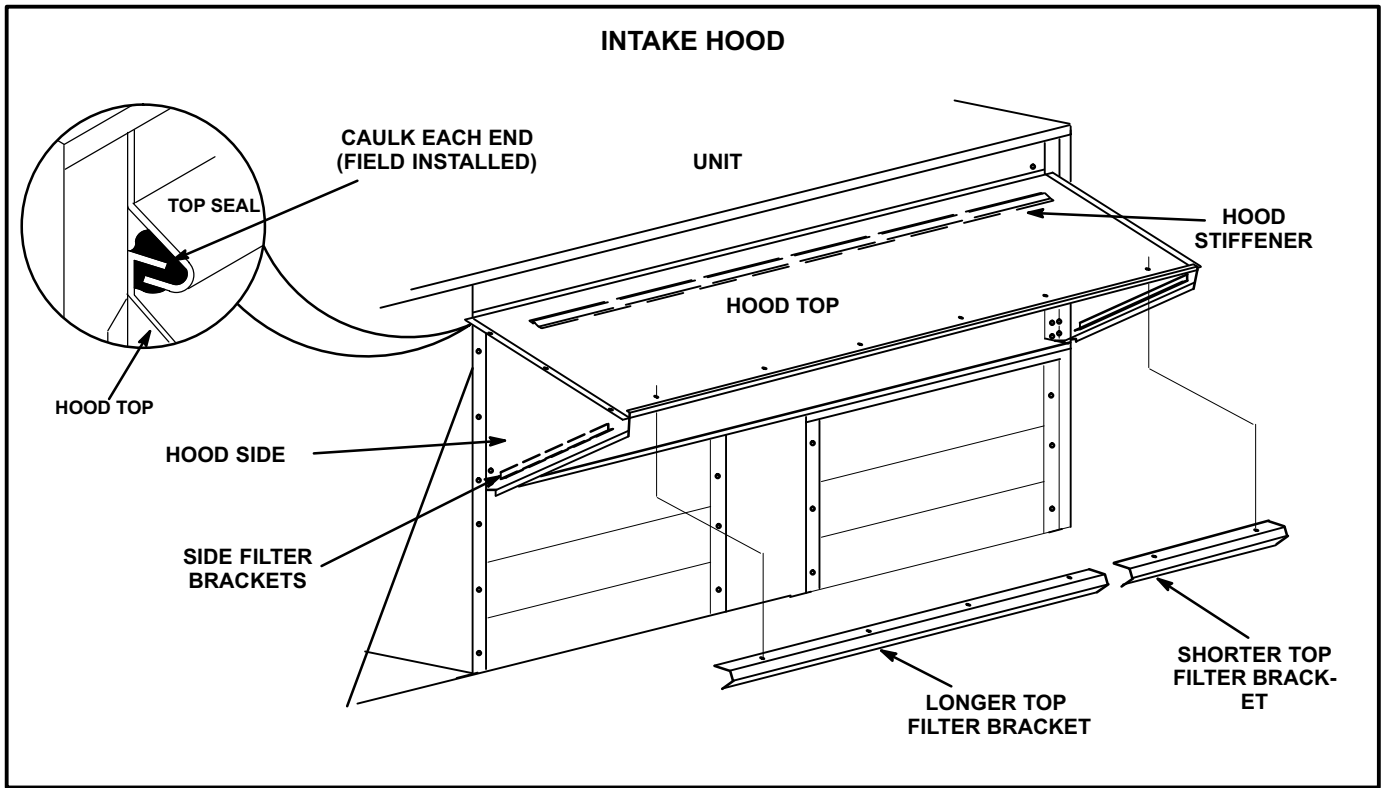

FIGURE 8
- 1- Remove screws securing side flanges of top hood to unit. See figure 8.
- 2- Pivot top hood open and secure sides of intake hood to top of hood using three sheet metal screws on each side. See figure 8.
- 6- Secure the longer top filter bracket to top of hood as shown in figures 8 and 9. Install four filters.